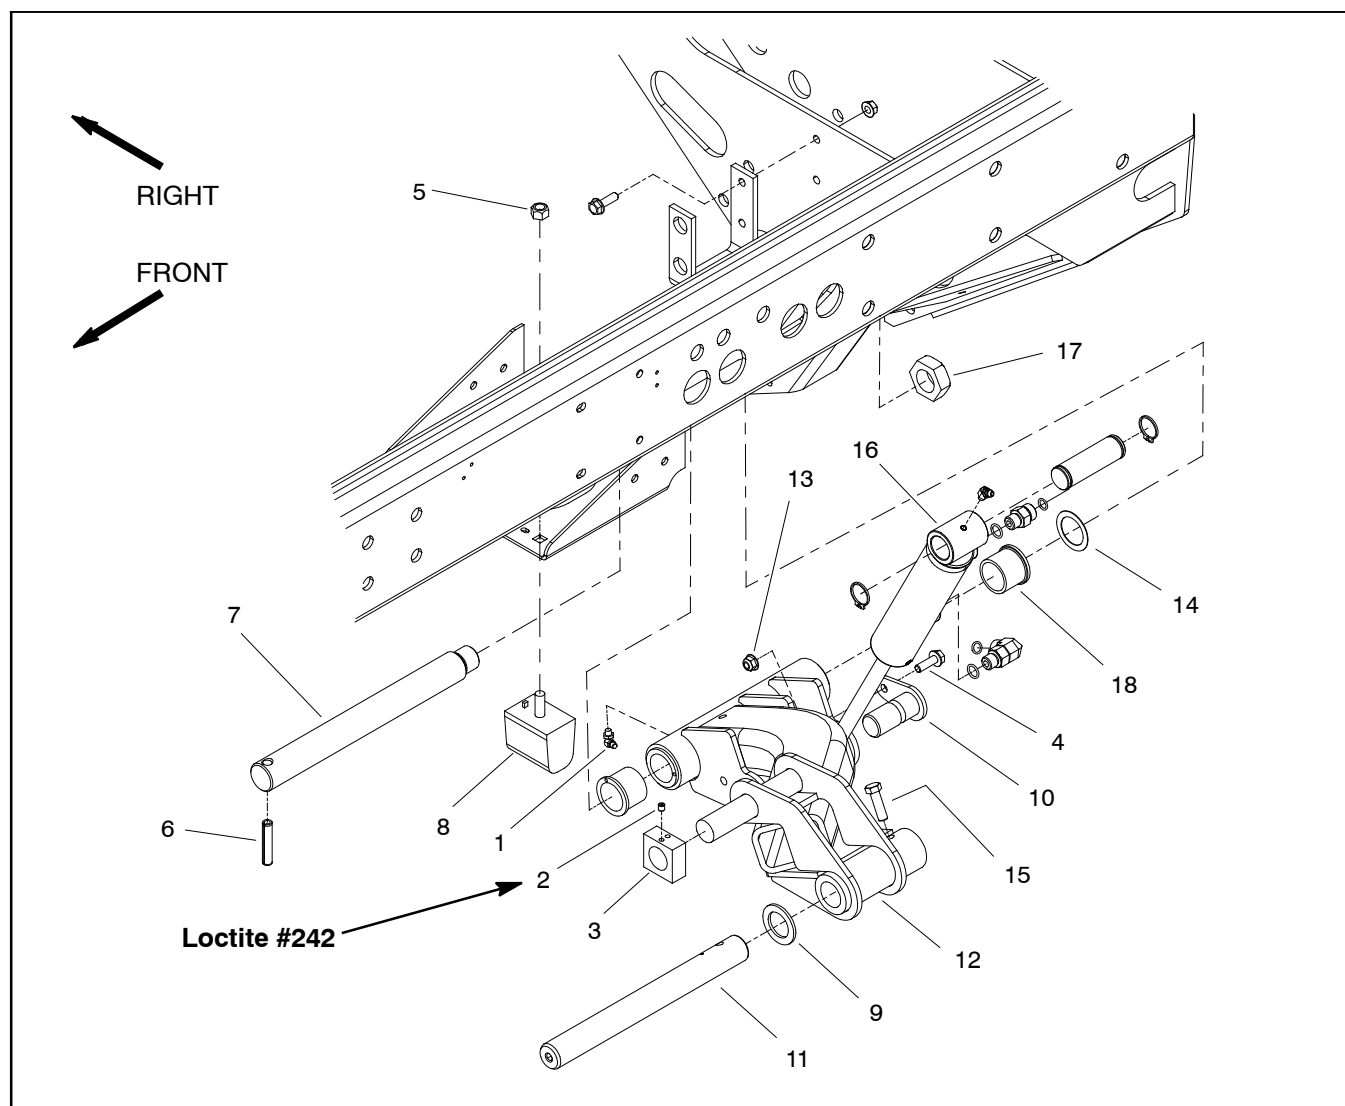

Figure 13
### Removal (Fig. 13)
3. Remove lift cylinder pin (item 10) that secures lift cylinder to lift arm.
4. Loosen and remove lock nut (item 17) from pivot pin.
5. Support lift arm and pull lift arm pivot pin from lift arm and frame. Locate and remove thrust washer (item 14) from rear of lift arm during pivot pin removal.
7. Disassemble lift arm as needed using Figure 13 as a guide.
### Installation (Fig. 13)
1. Assemble lift arm using Figure 13 as a guide.
2. Position lift arm to frame. Fit thrust washer (item 14) between rear of lift arm and frame. Slide pivot pin into frame and lift arm. Align roll pin in pivot pin with slot in frame flange.
3. Install and tighten lock nut (item 17) to secure lift arm pivot pin.
4. Secure lift cylinder to lift arm with cylinder pin (item 10). Secure cylinder pin to lift arm with flange head screw and flange nut.
**NOTE:** Install thrust washer (item 9) on deck pivot shaft before installing cutting deck on pivot shaft.
**NOTE:** The lift arms for cutting decks #2 and #3 are fitted with a lift arm rotation stop block (item 3). This stop is to keep the deck stable while raised. To adjust rotation stop, remove two (2) set screws from stop and fully raise cutting deck to position the stop. Apply Loctite #242 (or equivalent) to set screws and install set screws to secure stop. The rotation stop should contact the lift arm across the full width of the stop.